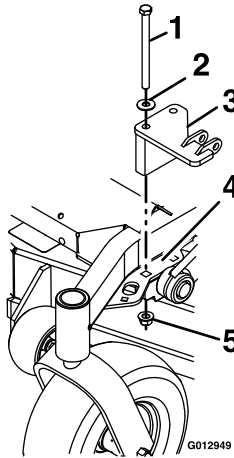

Figure 7
- Install the front deck lift bracket using 2 screws (1/2 x 6–1/2 inches), 2 spring disc washers (1/2 inch), and 2 locknuts (1/2 inch) as shown in Figure 7. Torque the screws to 91 to 113 N·m (67 to 83 ft-lb).